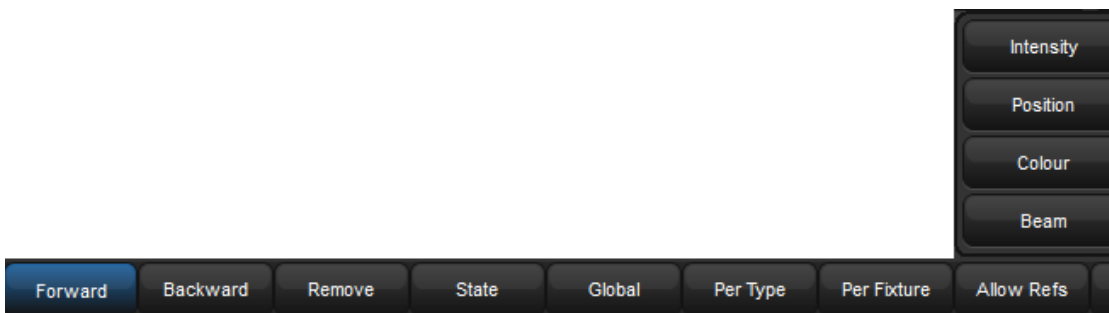

Figure 8.7. The Record Options Toolbar
2. Press Record. The Record Options Toolbar will appear at the bottom of the right-hand touch screen; see *Figure 8.7, "The Record Options Toolbar"*.